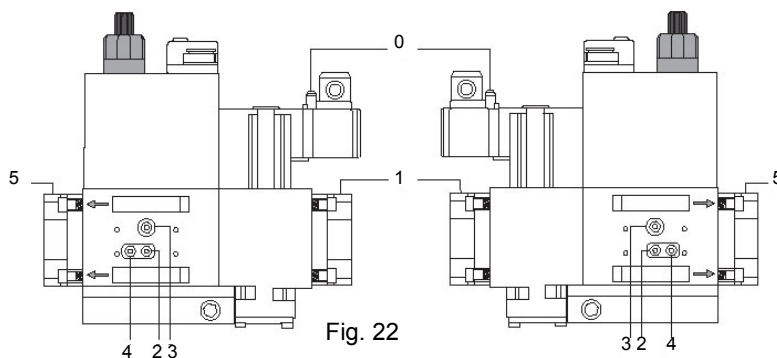
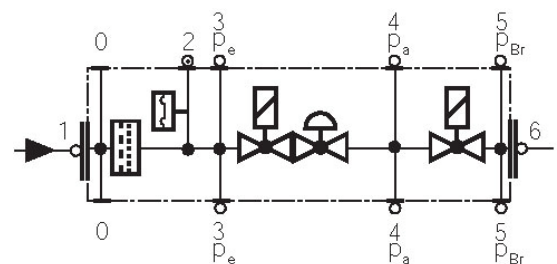

Fig. 22
Fig. 23
- Change the filter if the pressure difference between pressure connection 1 and 2 (Fig. 22-Fig. 23)  $\Delta p > 10$  mbar.
- Change the filter if the pressure difference between pressure connection 1 and 2 (Fig. 22-Fig. 23) is twice as high compared to the last check.